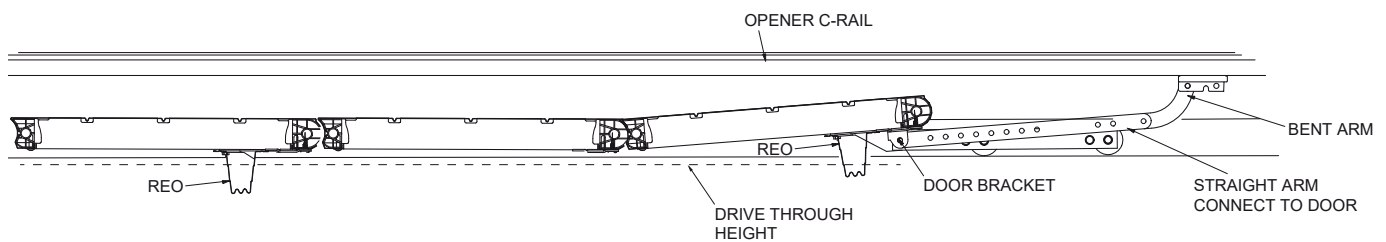

Fig. 5.5.5
- a) Position the door bracket for the C-Rail connection at the top of the panel as per Fig 5.5.5, or as near as practical to the centre line of the quick closer's pivot point.